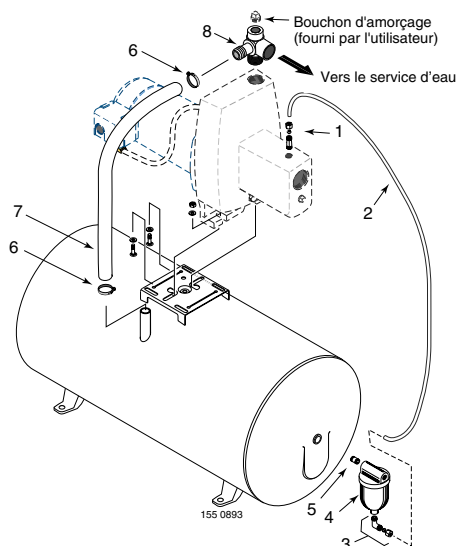

Figure 1
**INSTRUCTIONS D'INSTALLATION DES RÉSERVOIRS HORIZONTAUX (FIG. 1)**